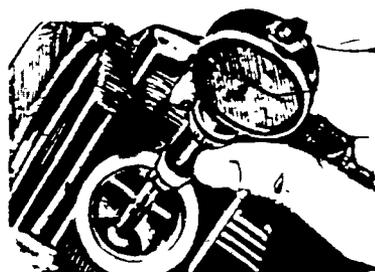

FIGURE 4
1. Measure inside diameter with dial indicator or telescoping gauge and micrometer or valve guide reject gauge (Figure 4)